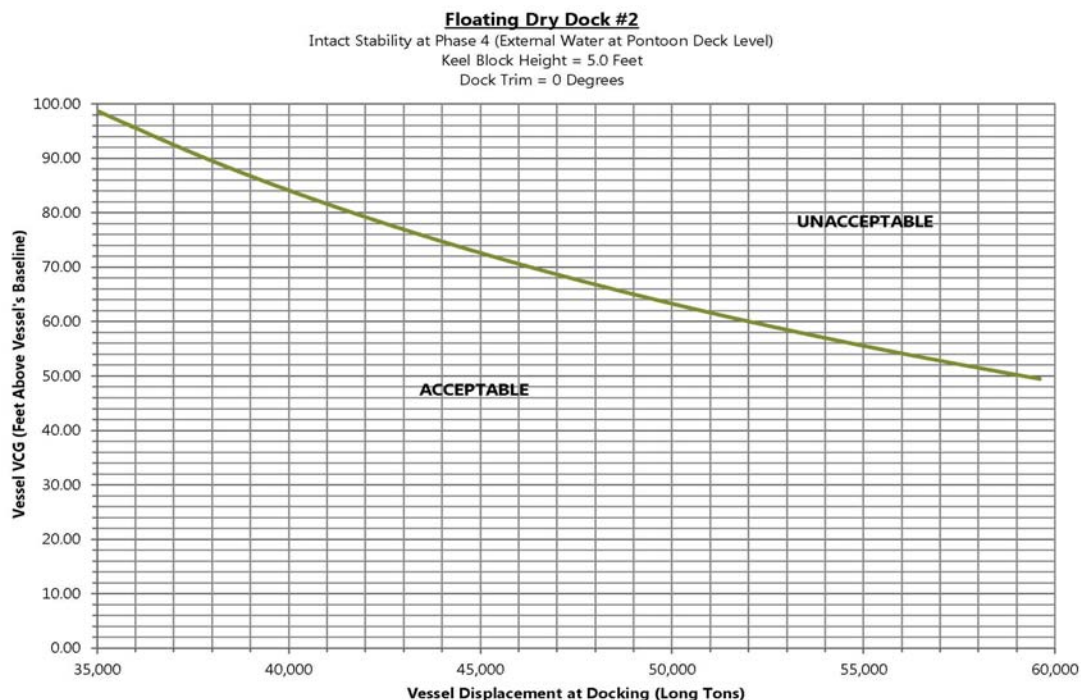

FIGURE 1 – Intact Stability Curve
Dry Dock No. 2 was renovated in 2008 by adding six (6) 40'x12' sponsons in order to increase its transverse intact stability for docking phases 3 and 4. HEGER has developed an allowable KG versus vessel weight curve for the floating dry dock for a minimum GM of 3.28 feet as required by ABS. The stability curve is shown Figure 1 below. Plotted points that fall on or below this line are acceptable, points above are unacceptable.